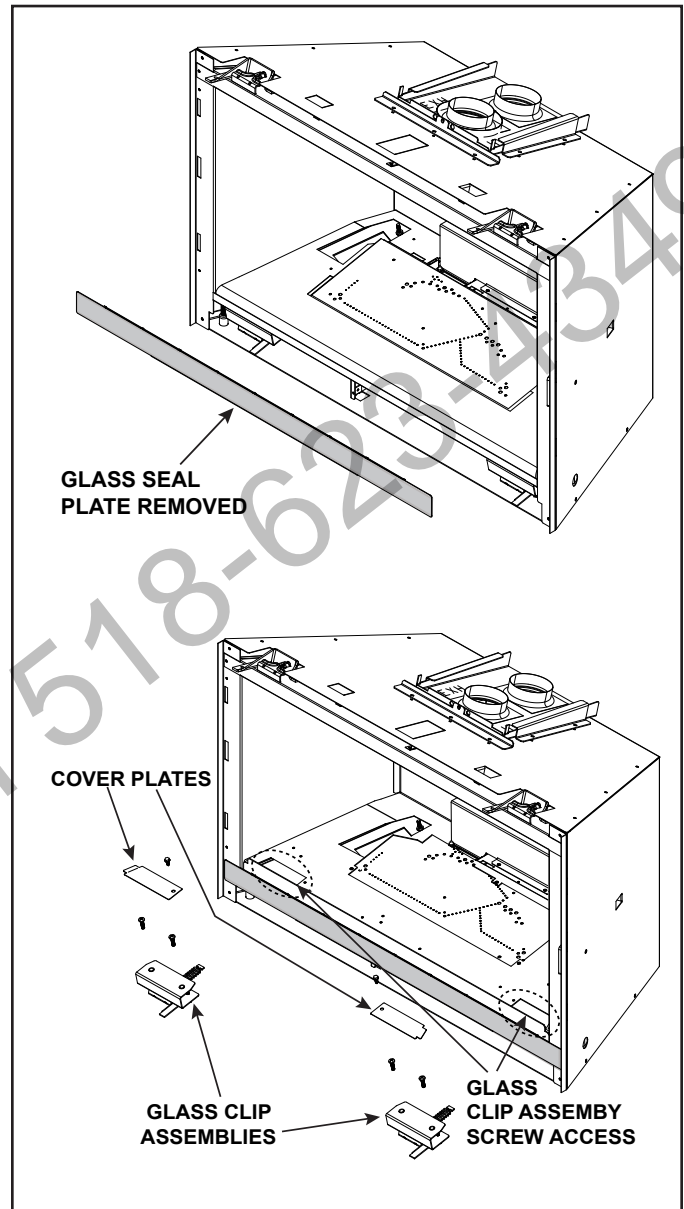

Figure 1 Glass Seal Plate installed with Glass Clip Assemblies Removed
3. Remove glass seal plate. See Figure 1.
5. For easier access to components the bottom glass clip assemblies can be removed. See Figure 1.
28. Reinstall the bottom glass clip assemblies if removed See Figure 1.
31. Reinstall the glass seal plate. See Figure 1.